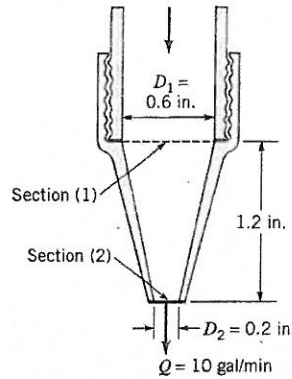

Figure P5.38
5.38 Determine the anchoring force required to hold in place the conical nozzle attached to the end of the laboratory sink faucet shown in Fig. P5.38 when the water flowrate is 10 gal/min. The nozzle weight is 0.2 lb. The nozzle inlet and exit inside diameters are 0.6 and 0.2 in., respectively. The nozzle axis is vertical, and the axial distance between sections (1) and (2) is 1.2 in. The pressure at section (1) is 68 psi.